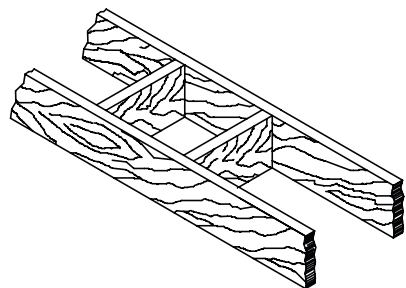

Figure 23
1. Cut and frame the holes in the ceiling, floor and roof where the chimney will pass (see Figure 23). Use a plumb-bob to line up the center of the holes. The sizes are indicated in Table 1 for the wall and ceiling holes and Table 2 (Page 18) for the roof holes.